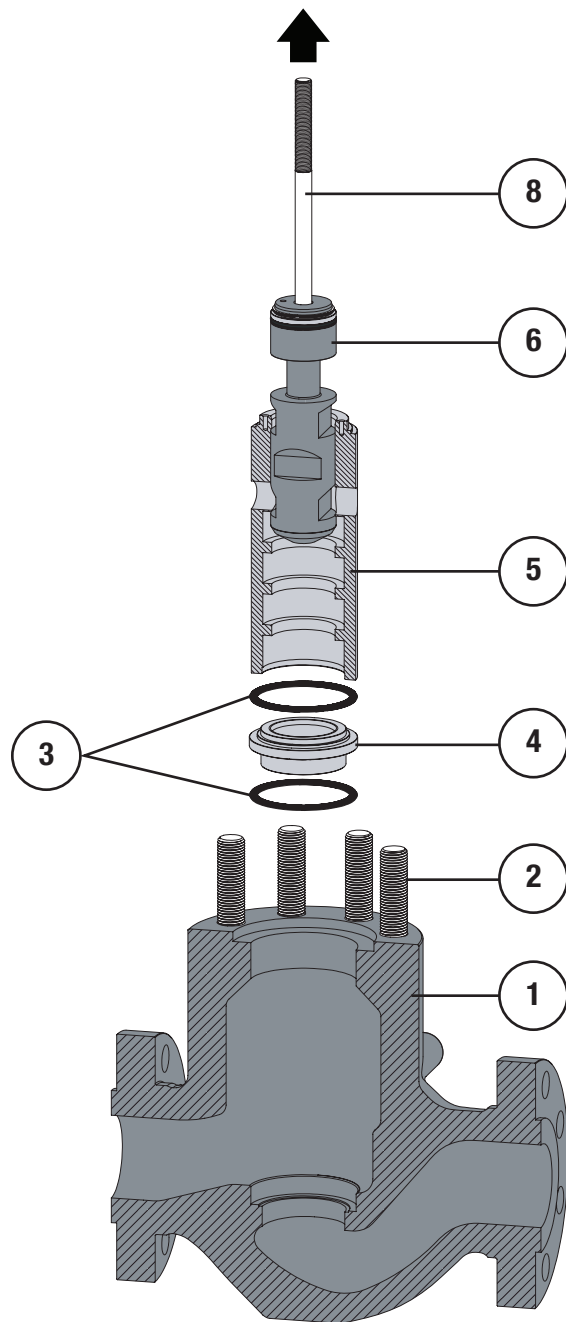

Figure 10 Standard Trim Parts Removal (Steps 1 - 6)
- 2 Remove the valve stem (Key 8) / valve plug (Key 6) assembly from the valve body (Key 1), refer to Figure 10. Refer to Plug Seal Removal section for disassembly instructions.